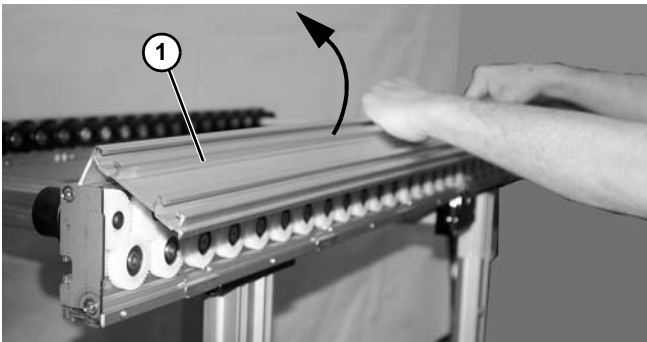

Figure 8
2. Rotate and remove side cover (**Figure 8, item 1**) from conveyor frame